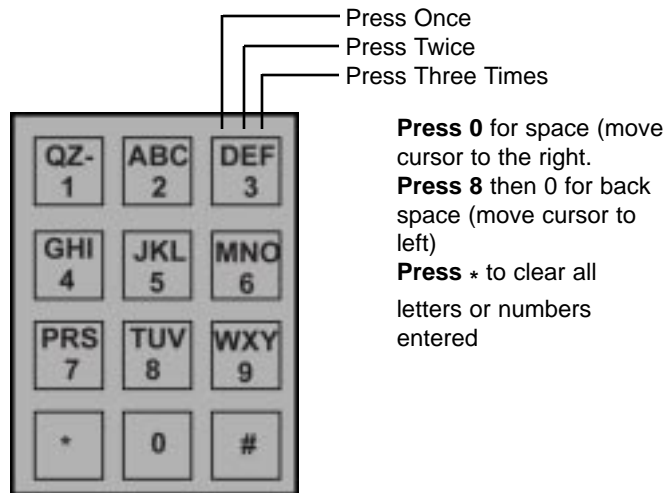

FIGURE 3.1
**Step 3** Enter 16 -characters on the first segment by rewriting the existing message or pressing \* to clear the segment and reenter the message, see keypad correlation on figure 3.1, press # on every character you have entered and press ## after the last character you have entered on each segment, then the display shows